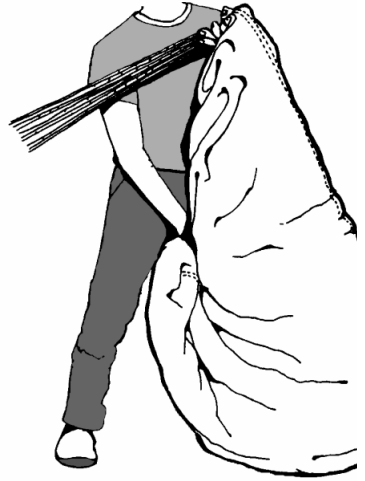

Figure 8
Step 9.) Gather the leading edge of the canopy together with the other hand approximately 12 inches from the top skin trailing edge. (See Figure 8.)